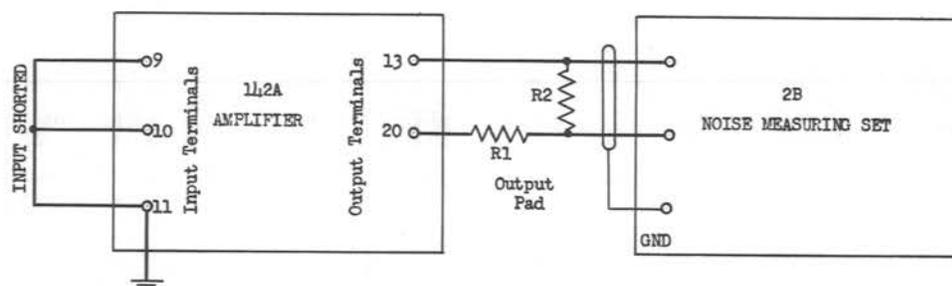
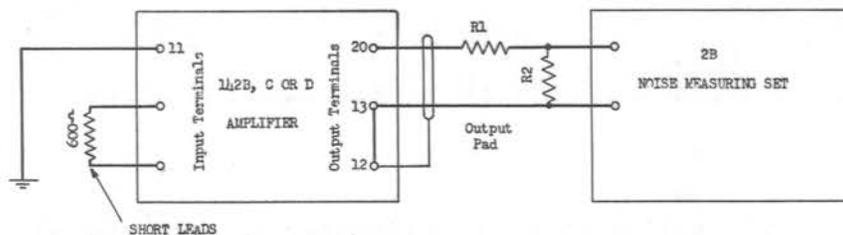

Fig. 4 - 142A Amplifier - Noise Measuring Arrangement
Fig. 5 - 142B, 142C, 142D Amplifier - Noise Measuring Arrangement
- (1) Calibrate the 2B noise measuring set in accordance with Section E40.459.1.
- (2) Insert the input plug in the LINE jacks and dummy plugs in the SOUND and VOL jacks. Operate K3 to FLAT.
- (3) Terminate the input of the amplifier under test and set the gain control(s) as indicated in Table 2.
- (4) Set up one of the testing arrangements shown in Figs. 4 and 5, depending upon the amplifier model under test. Fig. 4 shows the connections for the 142A amplifier, and Fig. 5 shows the connections for the 142B, 142C and 142D amplifiers.
- (5) Obtain the algebraic sum of the dial and meter readings of the noise set, the correction factors per Section E40.459.1, and the loss of the output protection pad.